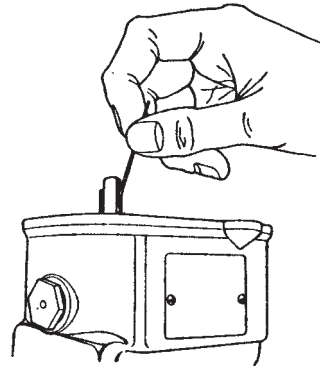

Figure 7.10.4
- G. Apply cam grease sparingly to each lobe of the cam. (See Figure 7.10.4.)